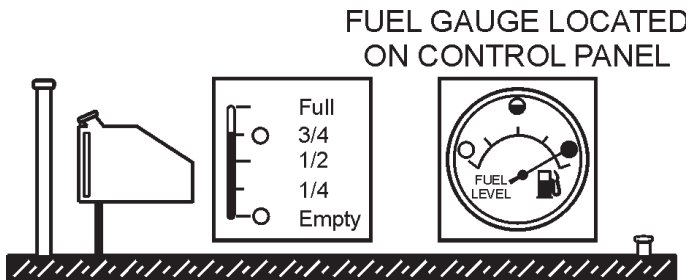

Figure 38. Full Trailer Tank
3. **NEVER overfill trailer fuel tank** – It is important to read the trailer fuel gauge when filling trailer fuel tank. **DO NOT** wait for fuel to rise in filler neck. See Figure 38.